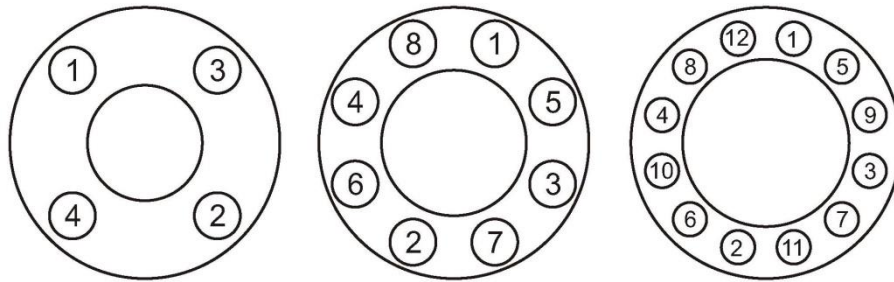

Fig.2.7 - Tightening sequence for flange bolts
- tighten the nuts in the sequence shown in fig.2.7